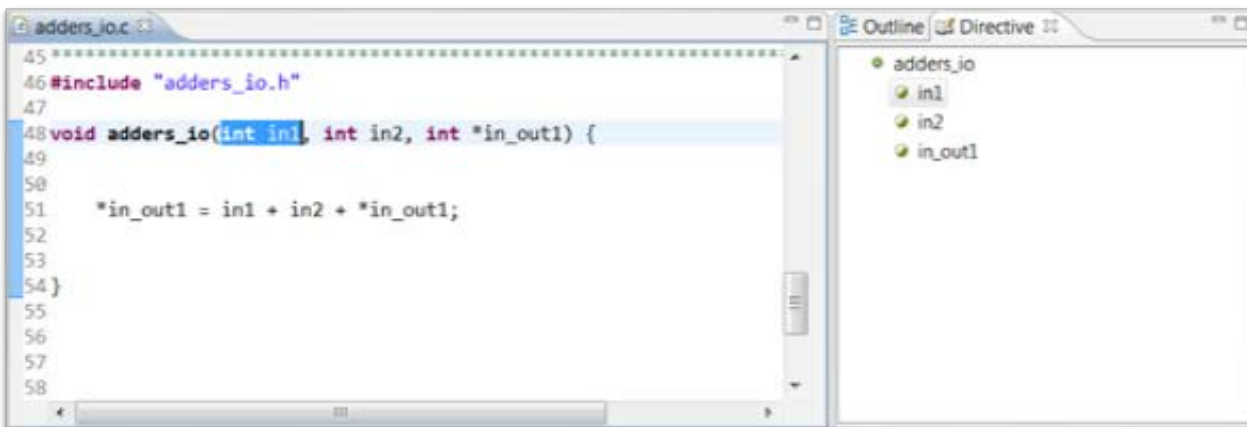

Figure 66: Adding Port I/O Protocols
2. Activate the **Directives** tab and select **input argument in1**, as shown in **Figure 66**.